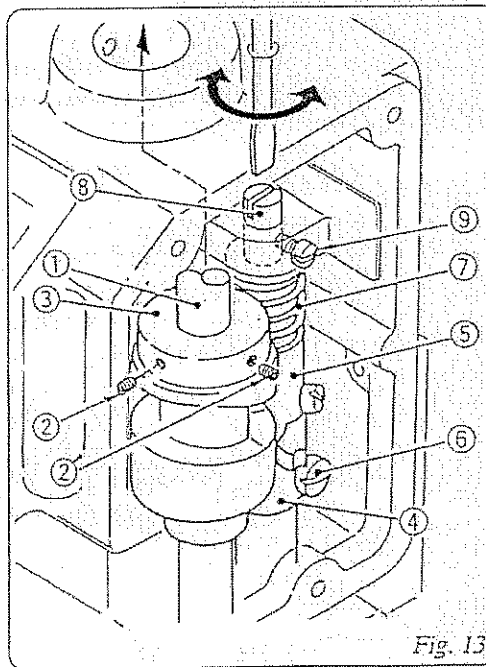

Fig. 13
Adjust Looper Drive Cam ③ When necessary as follows: (Refer to Fig.13.).
a) Apply the Screws ② and ② on the taper of Main Shaft ①.
b) Adjust Arm (B) ④, so that Looper Drive Cam ③ and Arm (A) ⑤ move smoothly. After adjusting, fix the Screw ⑥ tightly.
c) The clearance between Looper Drive Cam ③ and Arm ⑤ is effected by Spring ⑦. Loosen Screw ⑨ and turn Spring Supporter ⑧ to adjust the pressure of Spring ⑦. After adjusting, tighten the Screw ⑨ to fasten Spring Supporter ⑧.
① Main Shaft 241102
② ② Screw 15/64S28524
③ Looper Drive Cam 243012
④ Looper Rocker Shaft Arm (B) 243081
⑤ Looper Rocker Shaft Arm (A) 243071
⑥ Screw for Looper Rocker Shaft Arm (B) 11/64S40009
⑦ Spring 243131